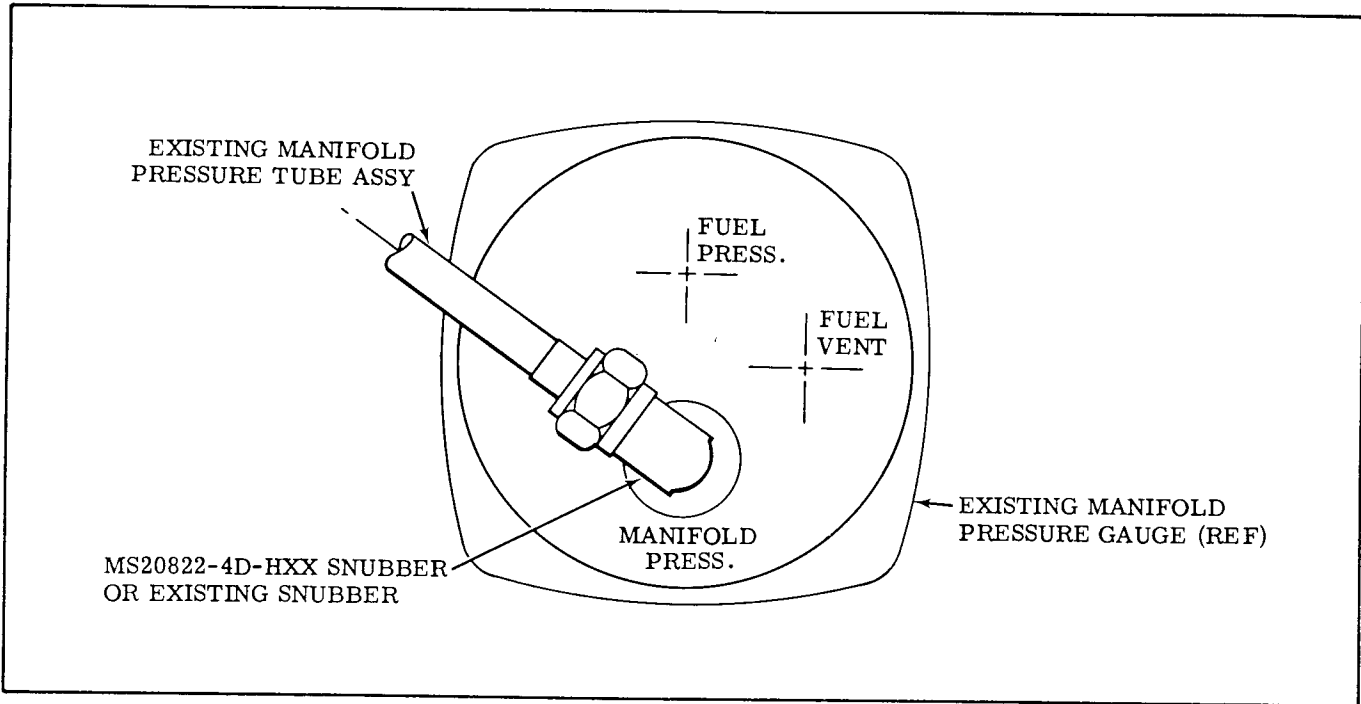

Figure 1.
1. Disconnect manifold pressure tube assembly from existing fitting in manifold pressure gauge port (see Figure 1.).
5. Install MS20822-4D-HXX pressure snubber in manifold pressure gauge (see Figure 1.).
6. Connect existing manifold pressure tube assembly to pressure snubber (see Figure 1.).
1. Disconnect manifold pressure tube assembly from existing pressure snubber in manifold pressure gauge port (see Figure 1.).